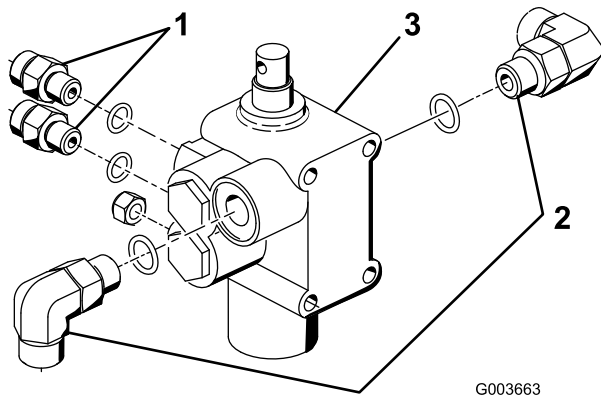

Figure 4
1. Thread the 2 straight hydraulic fittings and the two 90 degree fittings into the new lift valve. Position the fittings as shown in Figure 4. Do not tighten the 90 degree fittings at this time.